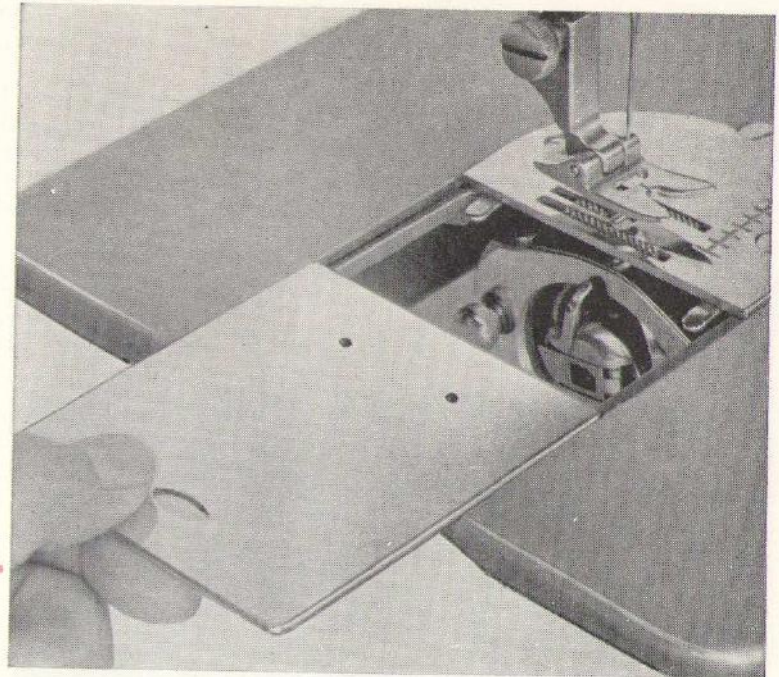

Fig. 6
- 3) Pull out slide plate to the left (Fig. 6).